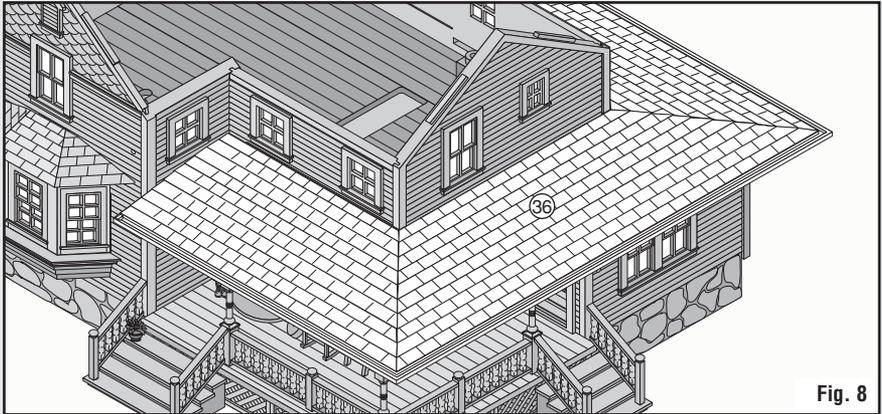

Fig. 8
- Apply glue onto tabs and slide First-Story Roof (36) tightly into place (Fig. 8).